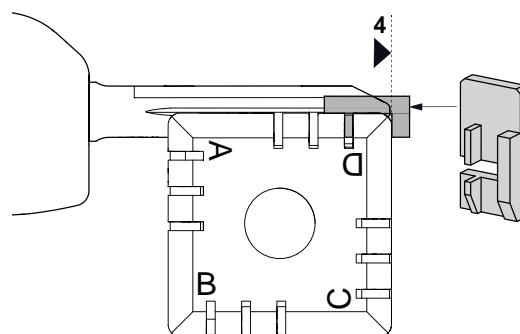

Fig. 31: Stop 4
- **Tip Stop “Stop 4” (Fig. 31)**
For long keys that need Stop 4. Install as per Fig. 31.